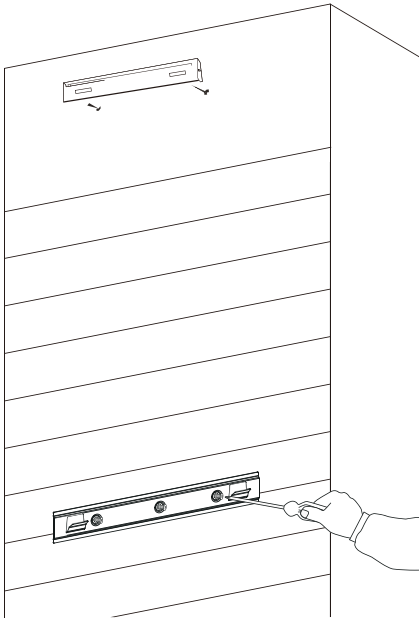
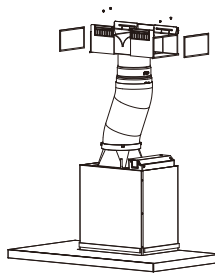

Fig7
Fig. 9
3. Install the flue cover mounting and wall brackets with screws to the wall as marked (Fig.7). Please mounted recirculating T pieces together with flue cover bracket if recirculating mode is used. (Fig.9)
5a. Recirculating mode (Fig. 9).
According to the flue cover dimension, fix the T-piece by 4 screws Supplied. Adhesive two sponges to the outlet of T-piece as shown (Fig.9)